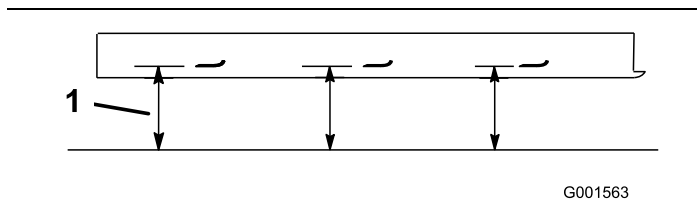

Figure 64
2. Measure from a level surface to the cutting edge, position A, of the blades (Figure 64). Note this dimension.